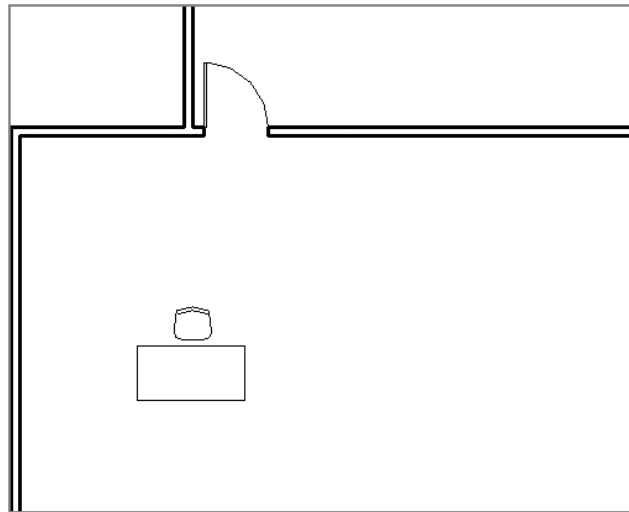

FIGURE 1.33 Place a chair with the desk in the main space.
5. Use the Component tool again, and choose Chair-Desk from the Type Selector. Press the spacebar until the chair orients properly with the desk (Figure 1.33).